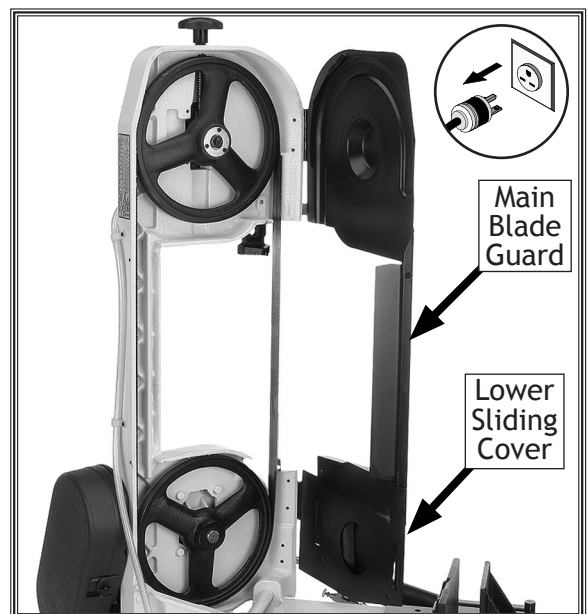

Figure 47. Bandsaw blade guard and the lower sliding cover.
3. Slide the lower sliding cover up, open the main blade guard, and remove the blade guide assemblies (See **Figure 47**).